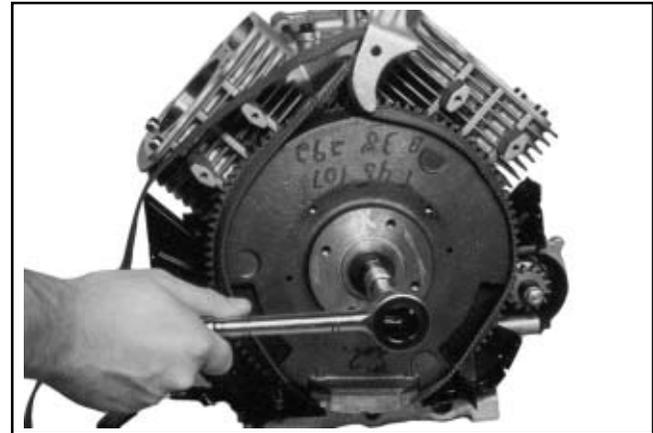

**Figure 9-56. Removing Fan.**
2. Remove the four hex. flange screws and fan. See Figure 9-56.